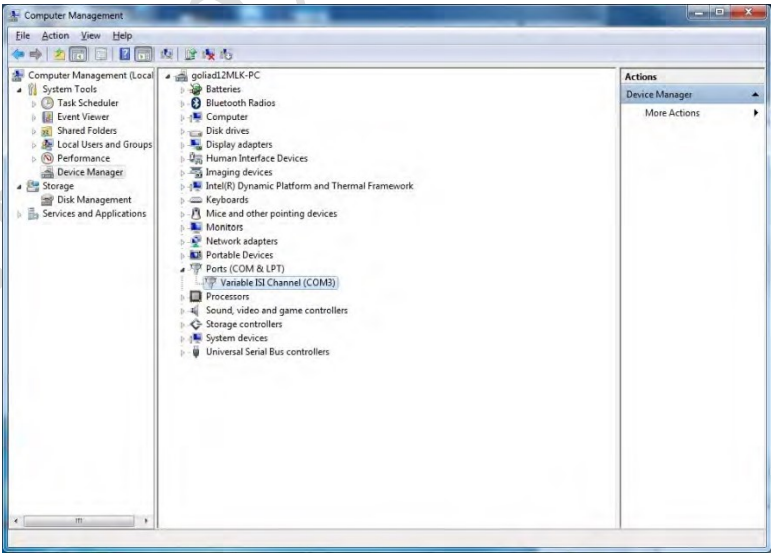

FIGURE 46. DEVICE MANAGER WINDOW AFTER INSTALLATION
6. Once installation has completed, the Device Manager window should look like the example in Figure 46.